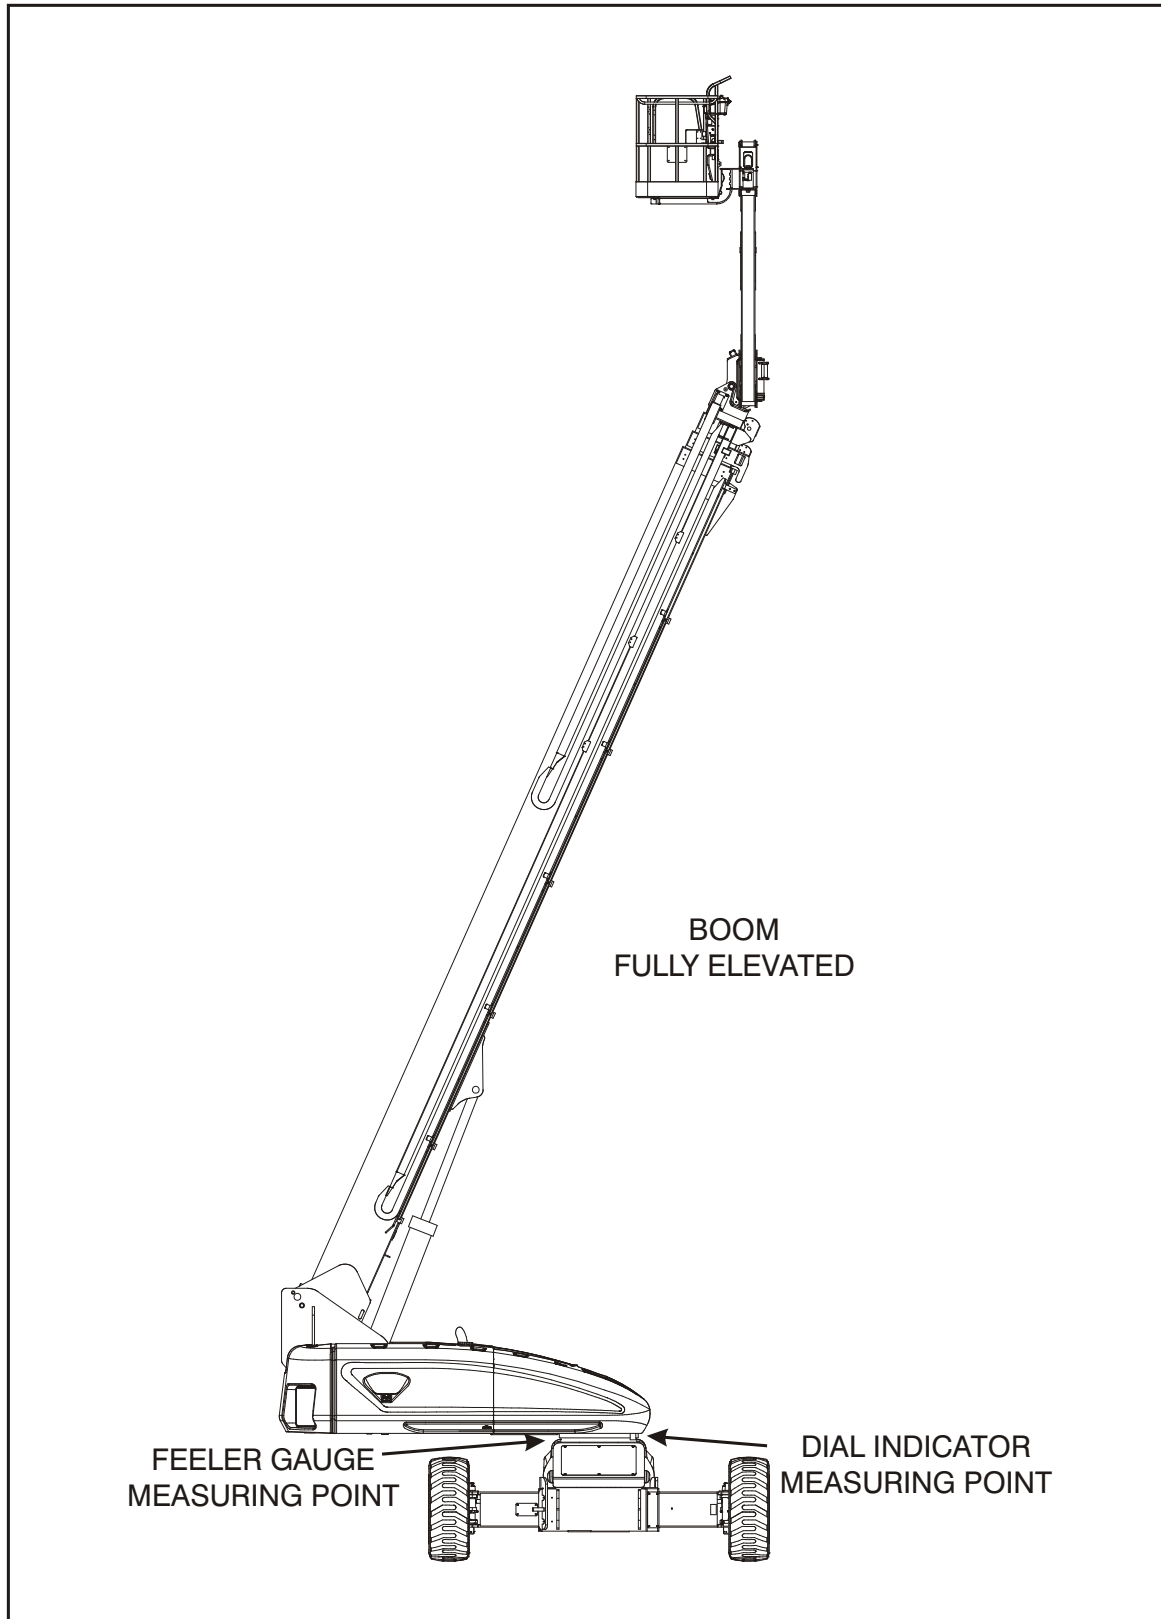

Figure 3-54. Swing Bearing Tolerance Boom Placement - Sheet 1 of 2
- a. Fully elevate the main boom. (See Figure 3-54.)
- b. At the position indicated on Figure 3-54., try to insert a 0.0015 feeler gauge between the bolt and hardened washer at the arrow indicated position.
1. From the underside of the machine, at rear center, with the main boom fully elevated and fully retracted, as shown in Figure 3-54., Swing Bearing Tolerance Boom Placement - Sheet 1 of 2, set up a magnetic base dial indicator as shown below and set the indicator to 0 (zero).